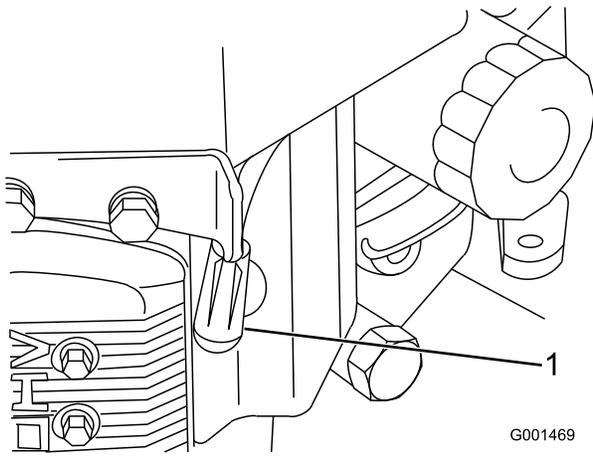

Figure 38
3. Disconnect the wire from the spark plug (Figure 38).